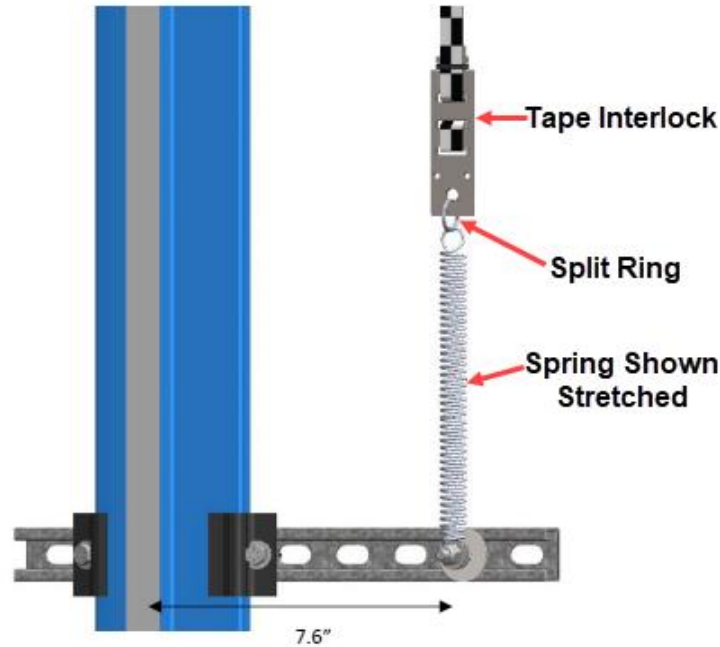

Figure 101: Lower Tape Mount Assembly
- Position the Lower Tape Mount Assembly 7.6" from the surface of the guide rail to the center of the 3/8" bolt (See Figure 101).
- Connect the spring to the tape interlock bracket using the split ring (See Figure 101).